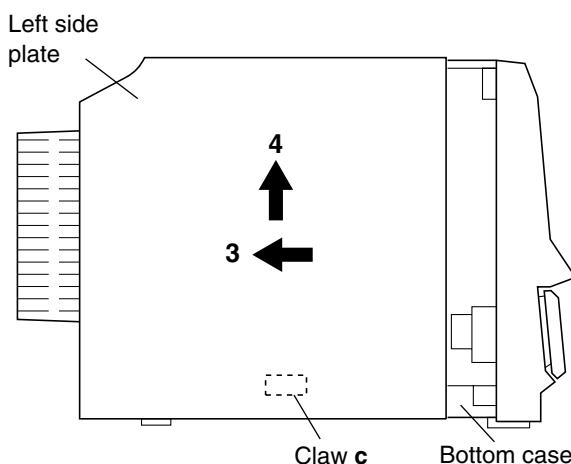

Fig.7
2. Slide the left side plate toward the rear (in the direction of the arrow **3**) until the claw **c** at the back of the left side plate is hooked by the bottom case, and then lift the left side plate upward (in the direction of the arrow **4**) to remove it. (See Fig.7.)